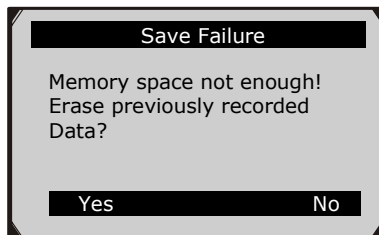

Figure 5.18
- 2) When there is not enough memory space, a warning message prompting to delete previously recorded data.(Figure 5.18)